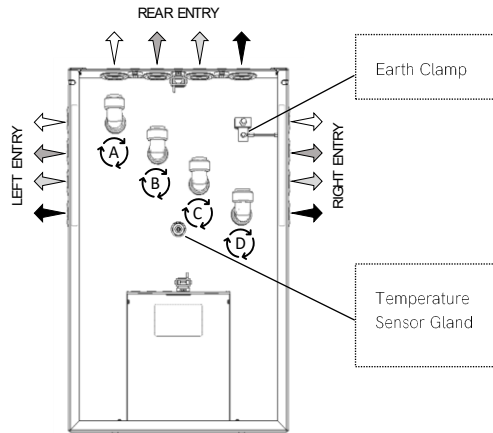

Figure 7 - Thermino xPlus Ports
- Rotate the elbows to the side you wish to connect the hydraulics (left, right or back) (Figure 7).
- The cold water inlet must be connected to Port D & the hot water outlet to Port A. Meanwhile the External Heat Source Flow to Heat Battery must be connected to Port B & External Heat Source Return from the Heat Battery to Port C (Figure 7, left hand side).